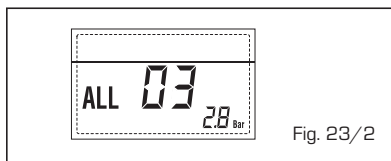

Fig. 23/2
- ANOMALIE SONDE SANITAIRE "ALL 04" (fig. 23/3)